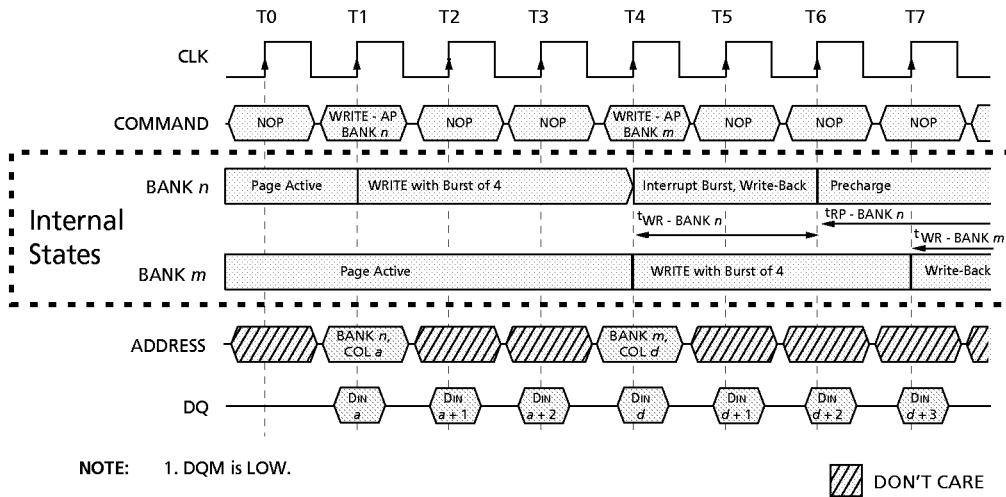

Figure 27
- Interrupted by a WRITE (with or without auto precharge): A WRITE to bank *m* will interrupt a WRITE on bank *n* when registered. The PRECHARGE to bank *n* will begin after ^tWR is met, where ^tWR begins when the WRITE to bank *m* is registered. The last valid data WRITE to bank *n* will be data registered one clock prior to a WRITE to bank *m* (Figure 27).